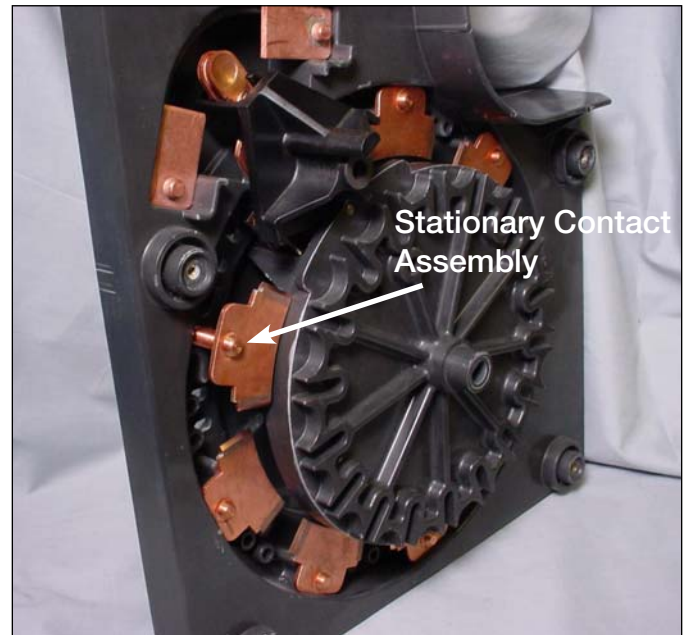

Figure 30.
19. Replace the number 1 stationary contact by inserting the contact stud into the contact-mounting hole in the contact panel. The contact position number is located on the contact panel. See Figure 30.